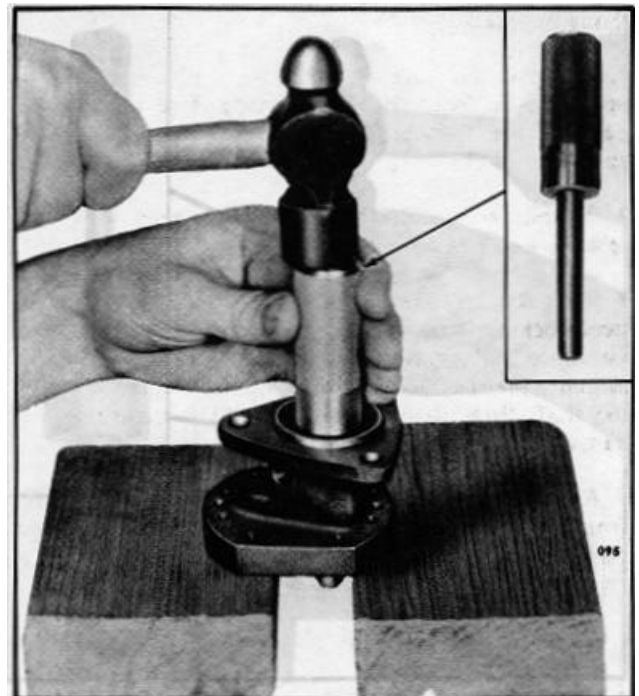

Fig. 8 - Installing Inner Oil Seal
b. With the pump body supported on wood blocks (Fig. 8), insert the pilot of the installer handle in